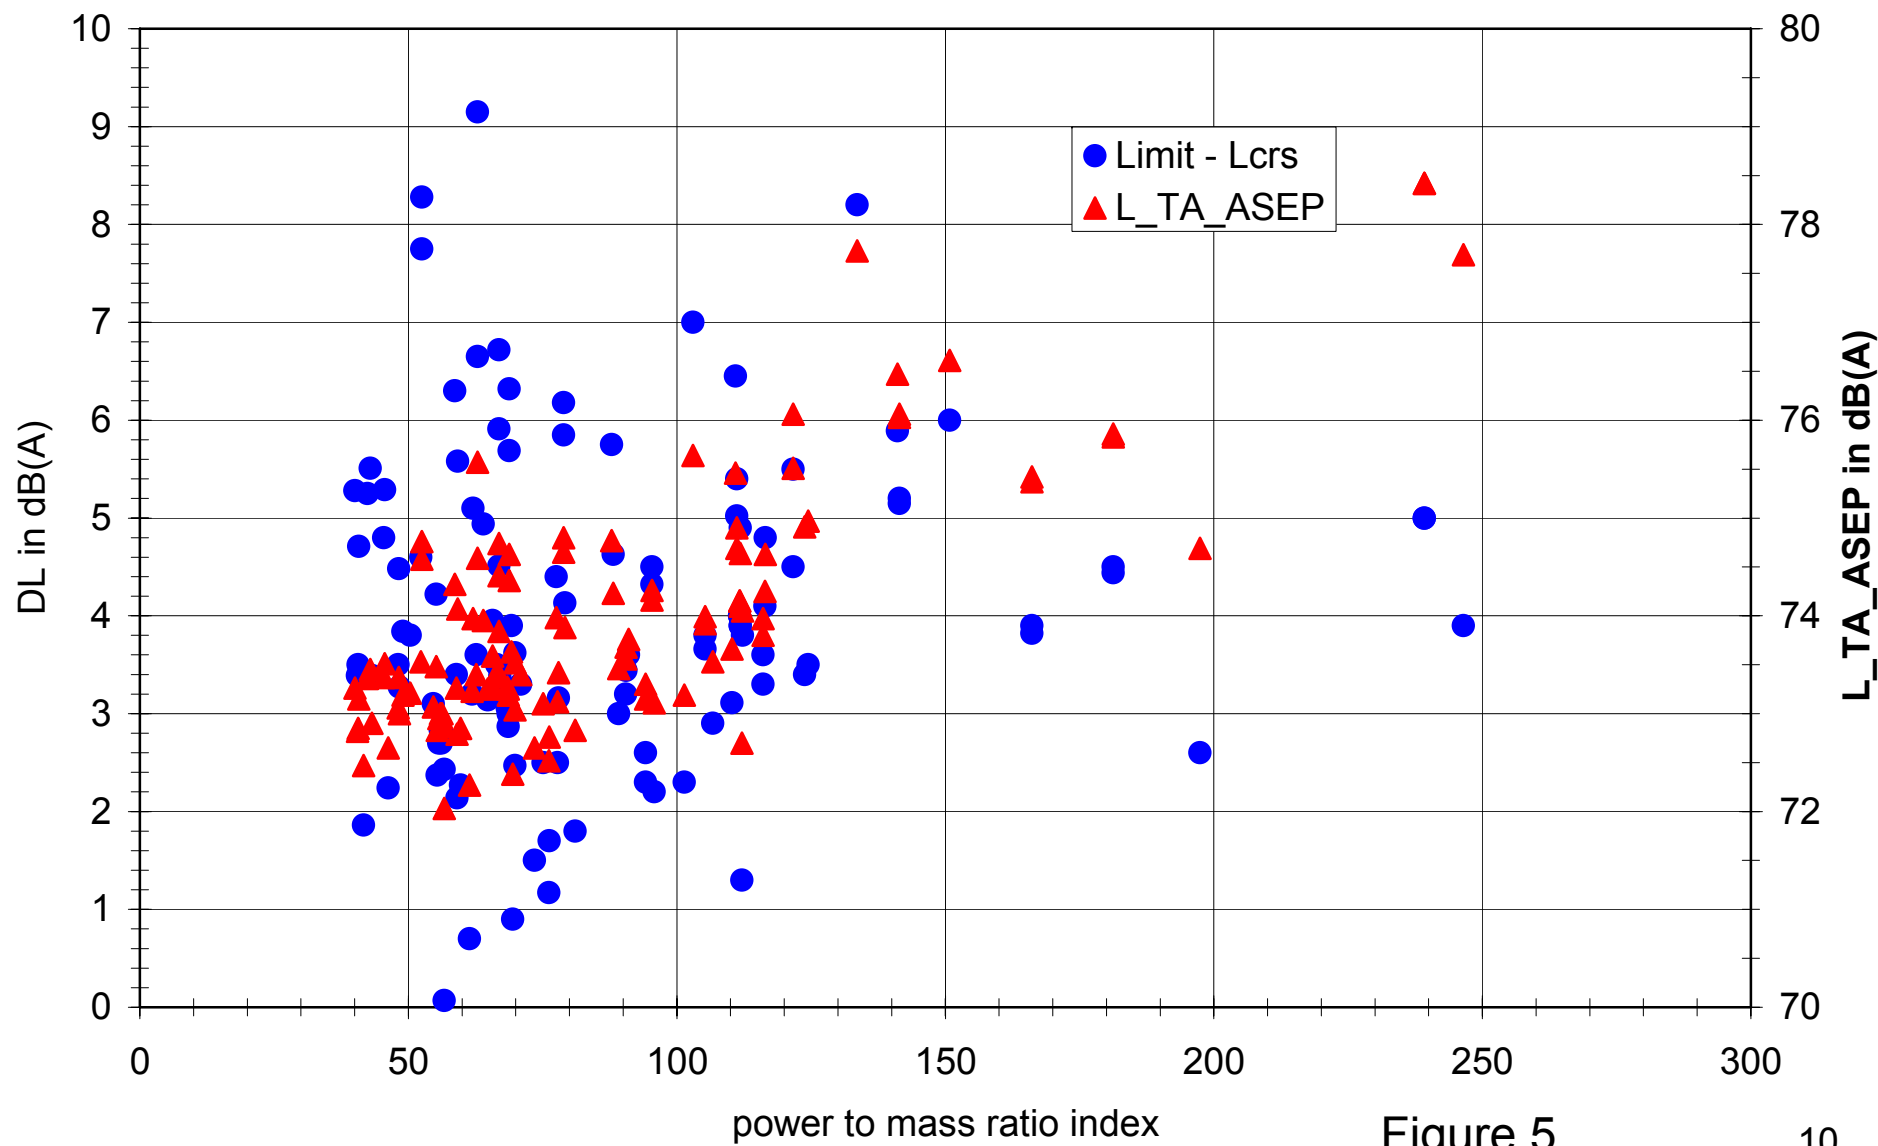

Figure 5
- The Limit - **Lcrs** values of the **ASEP** database are shown in figure 5.